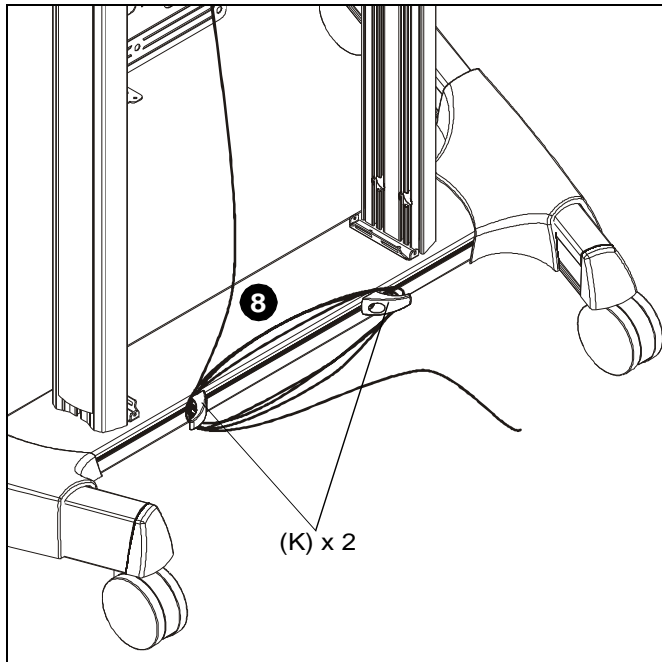

Figure 16
8. Wrap cables around cable hooks (K) as desired. (See Figure 16)